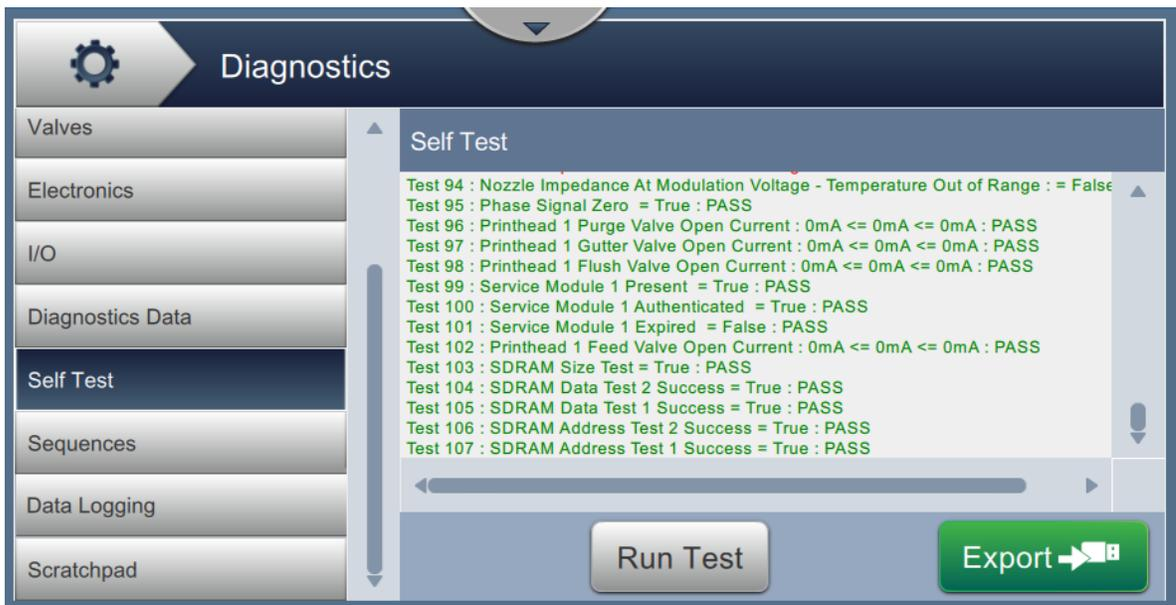

Figure 5-4: Run Test Screen
1. Touch the  button from the Tools screen. The Diagnostics screen opens. Select the option *Self Test* as shown in Figure 5-4.